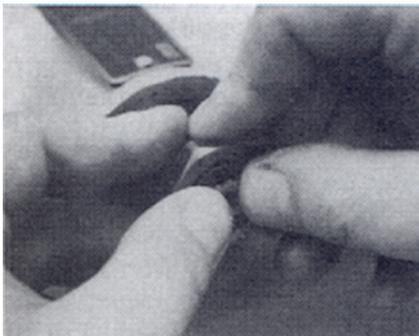

Figure 4. Remove gland (step 6)
6. Still holding the shaft in place, work the gland over the end of shaft to remove the gland, Figure 4.